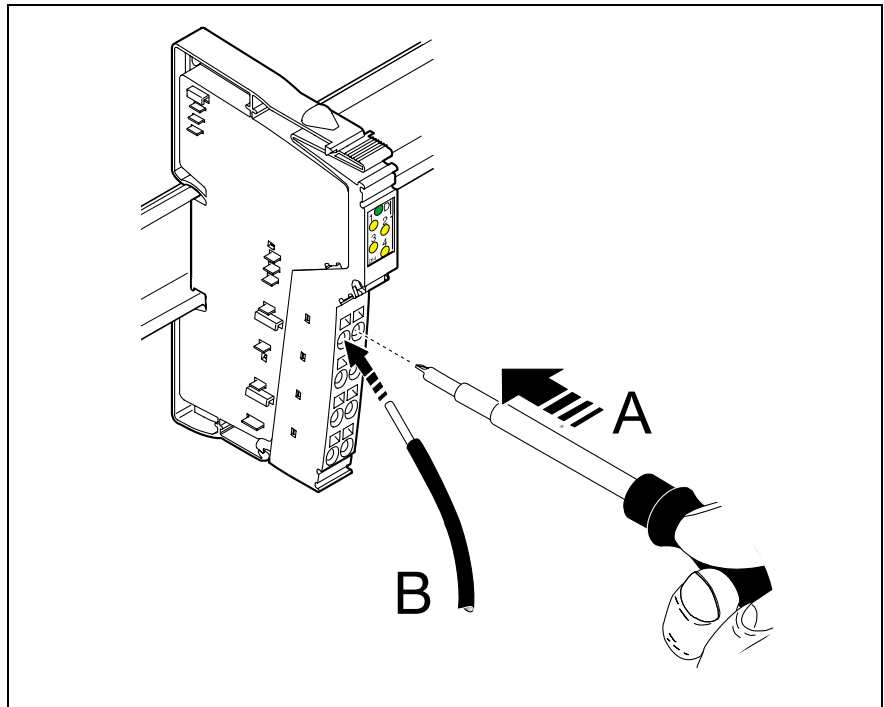

Fig. 6-8: Connecting unshielded lines
- Put a screwdriver into the actuation slot of the appropriate terminal point (Fig. 6-8, A) as far as necessary to be able to insert the core into the opening of the spring. Insert the core (Fig. 6-8, B). Pull the screwdriver out of the opening. This fixes the core. After completed installation, the cores and terminal points should be labeled (also refer to Chapter "Diagnostic and Status Indicators" on page 4-21).